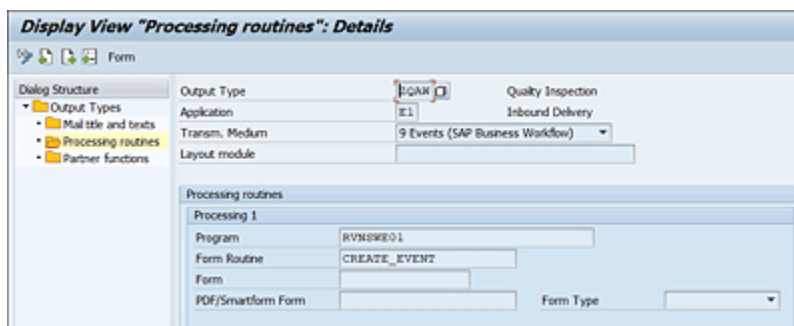

Figure 5.19 Maintenance of Processing Routine for Transmission Medium 9 in Transaction NACE
2. Click on **Processing routines** in the **Dialog Structure**, and then maintain Transmission medium as **9 Events (SAP Business Workflow)**. Maintain the **Program** as "RVNSWE01" and **Form Routine** as "CREATE_EVENT", as shown in Figure 5.19.